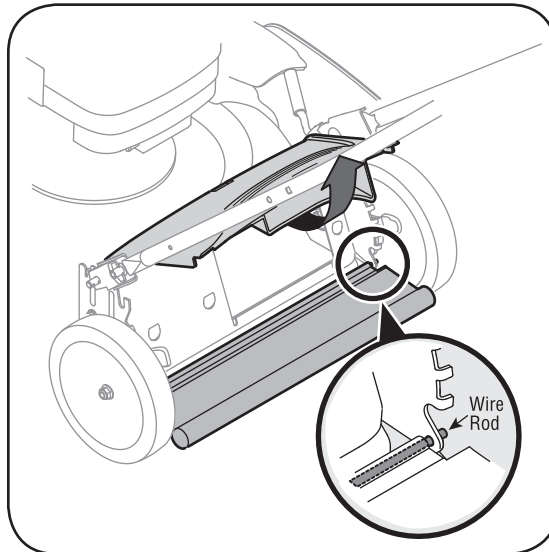

Figure 5-3: Cut wire to remove rear flap.
1. To remove rear flap, cut off the flat end of the wire rod which secures it to the deck, Figure 5-3.